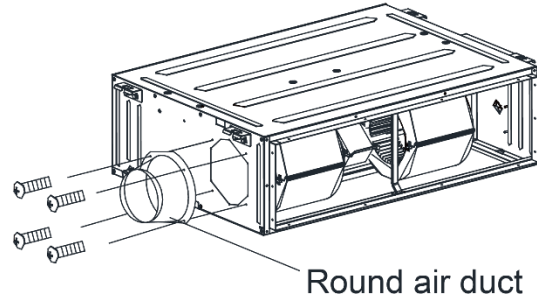

Fig 4.4.9
- (2) Install the round flange so that the fresh air duct can be connected as Fig 4.4.9.
- (3) Seal and insulate the fresh air ductwork and flange.
- (4) Fresh air should be treated with an air filter.